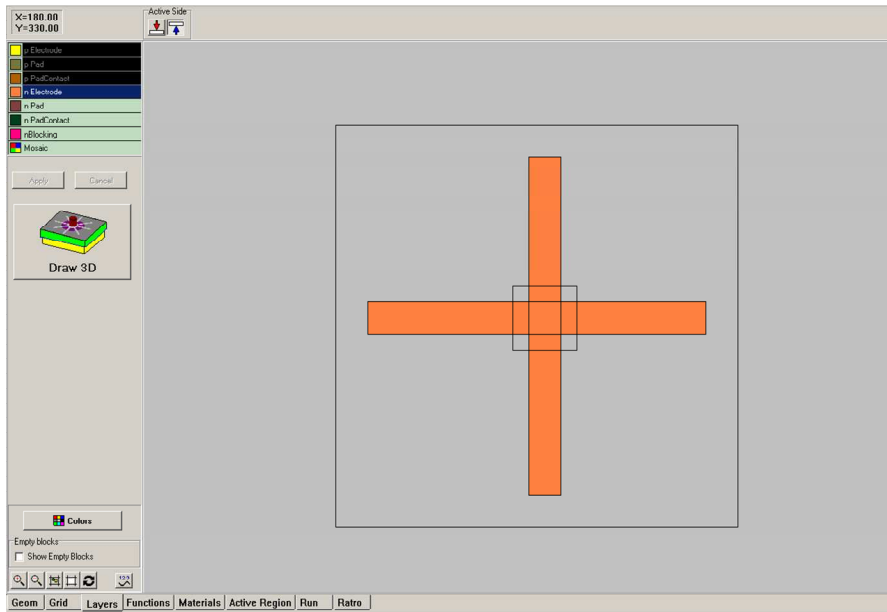

Fig. 32
**n-electrode.** Area of the metal n-electrode (see Fig. 32).